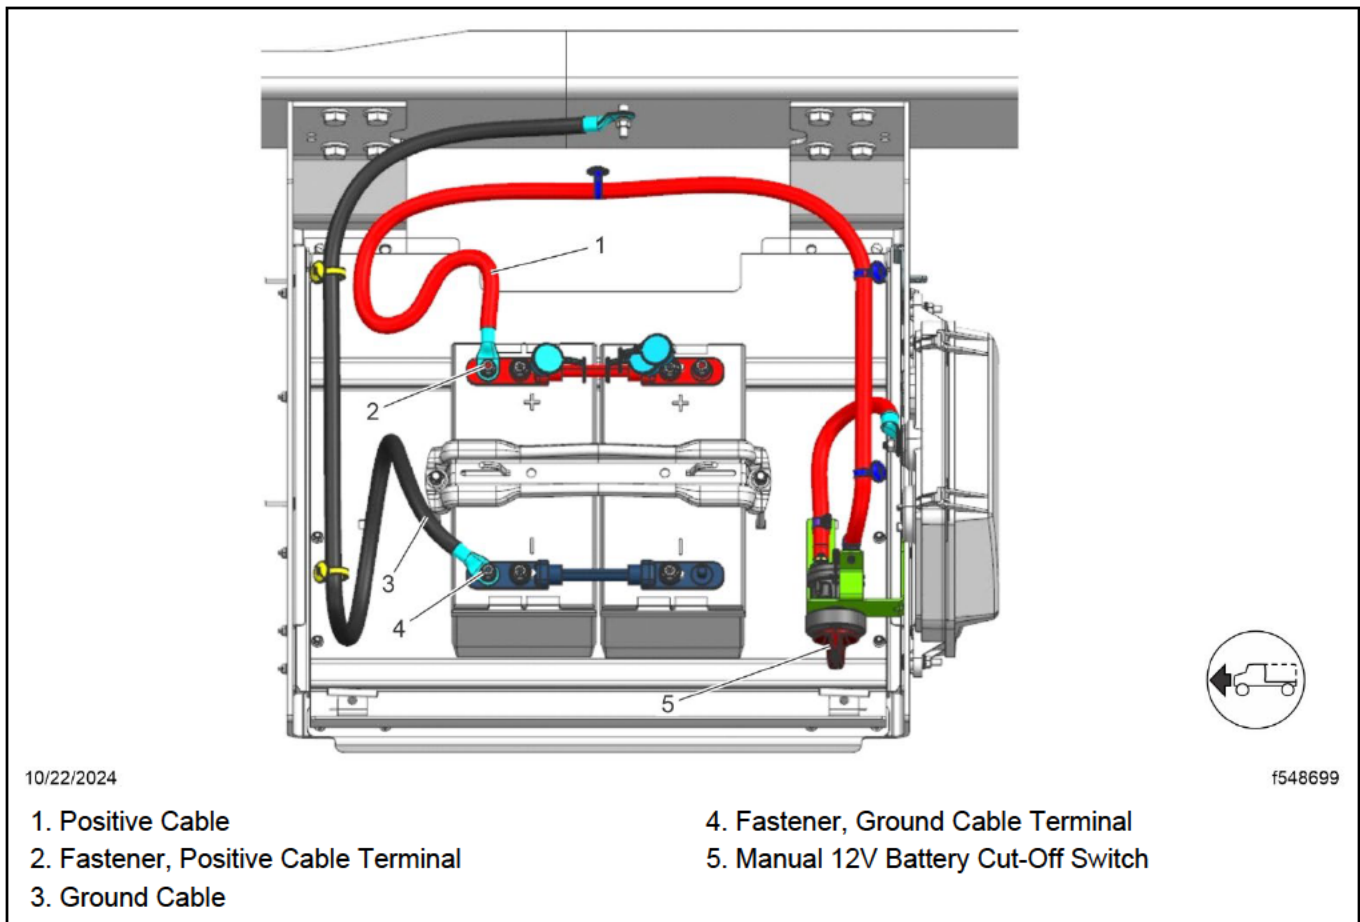

Fig. 1, Disconnecting the 12V Battery Terminals
4. Loosen the fastener and disconnect the ground cable terminal, items 4 and 3 in **Fig. 1**, from the 12V battery.
5. Loosen the fastener and disconnect the positive cable terminal, items 2 and 1 in **Fig. 1**, from the 12V battery.